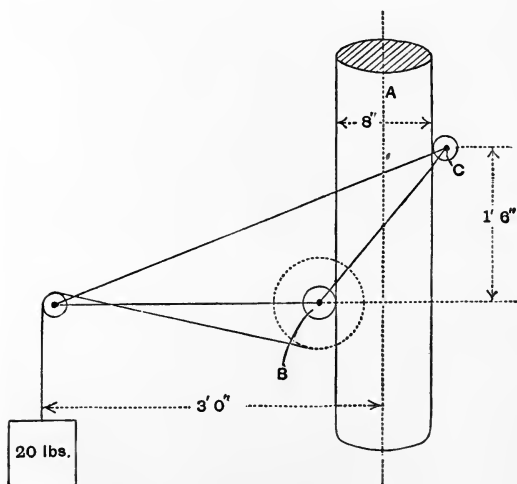

Fig. 3.
4. The weight of 20 lbs. shewn in fig. 3 is supported by the post *A* and the triangular framework which carries freely turning rollers at *B* and *C*. The mass of the frame and rollers is 5 lbs., the moment of inertia of the roller *B* about its axis of rotation is 2 lbs. inch²; the small and large radii of *B* are $1\frac{1}{2}$ inches and 4 inches respectively, and the mass of the roller *C* is negligible. Determine the acceleration with which the frame climbs the post assuming that the roller *B* does not slip.